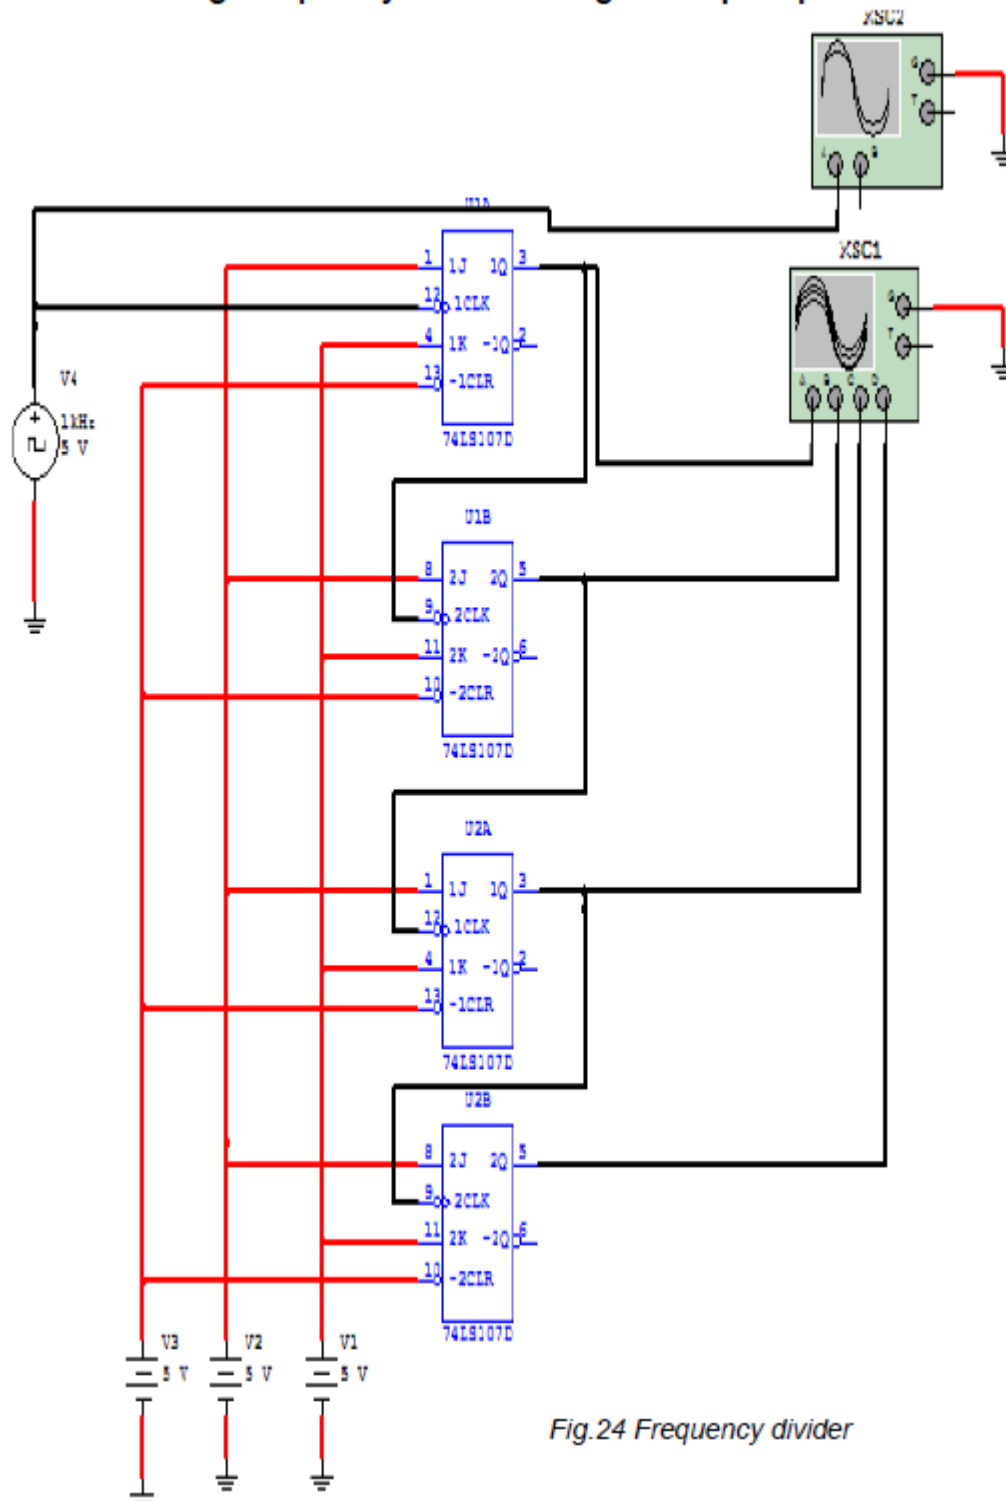

Fig.24 Frequency divider
- Construct the circuit shown in Fig.24.